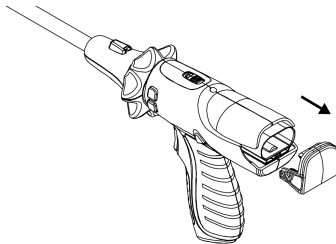

Fig. 4-1: Open the Battery Pack Cover
1. Scrubbed Person removes the Stapler from the sterile package under the sterile conditions and open the Battery Pack Cover in the direction of the arrow shown in Fig. 4-1.